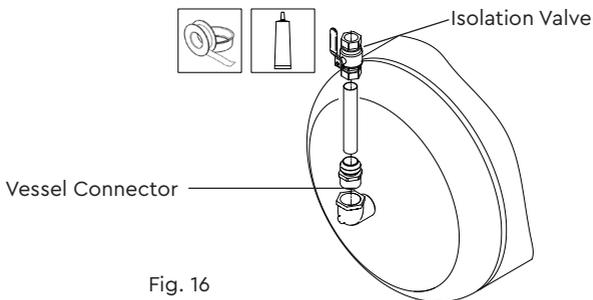

Fig. 16
- d) With the vessel on its side screw the Mainsboost vessel connector provided in the upstream line-in kit, into the tank elbow using suitable thread seal such as PTFE tape or liquid thread lock (see Fig. 16).